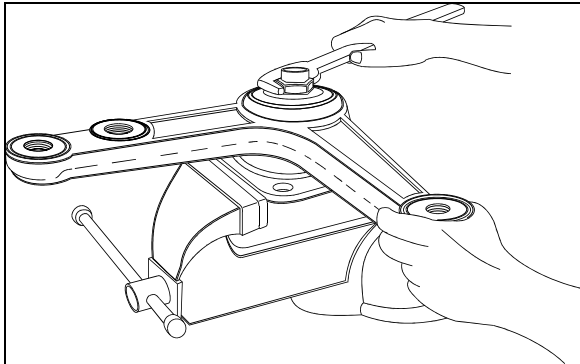

FIGURE 25: BELL CRANK
3. Install bell crank or idler arm onto its mounting spindle, while holding the bell crank or idler arm, slide on the bearing assembly, thrust washer and secure using nut. (Fig. 25).